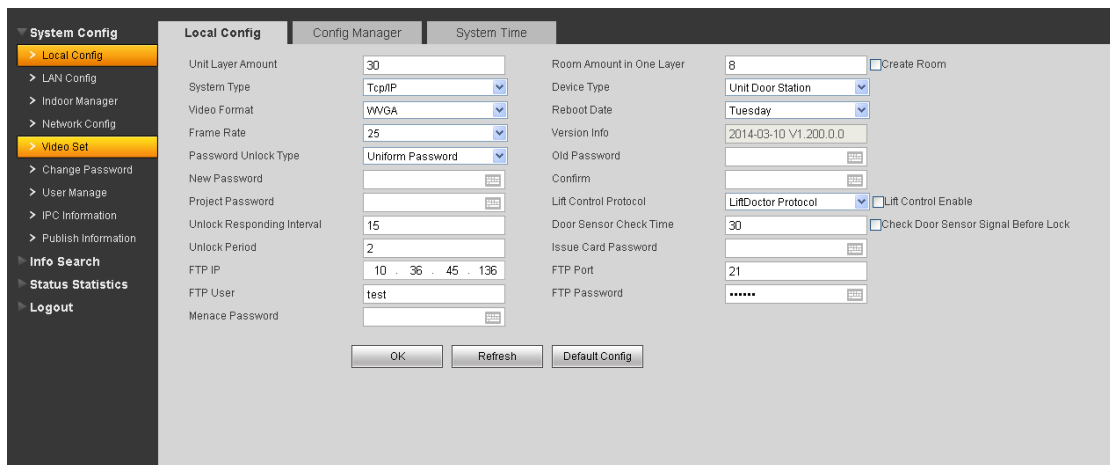

Figure 3- 2
- b) Set system type to digital (Tcp/IP), video format is WVGA, and set frame rate according to your condition. Click on OK. See Figure 3- 2.